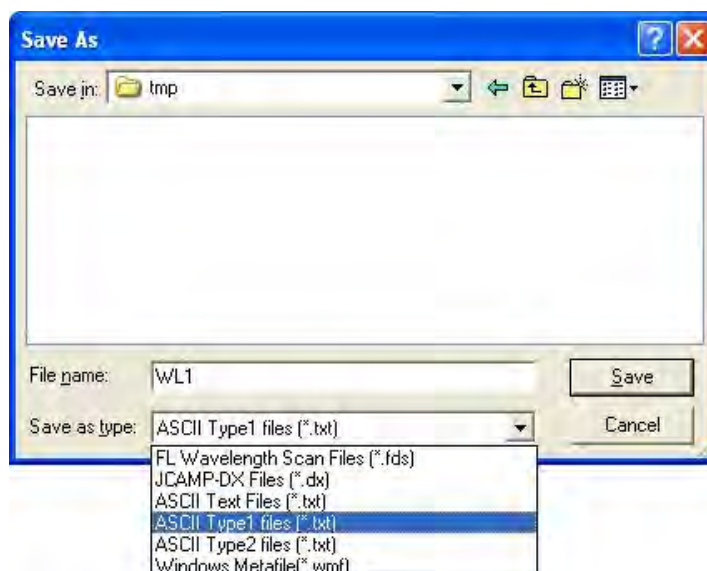

Fig. 7-47
- (1) Load a data file for text conversion and open the data processing window. (Refer to 7.1.)
- (2) Click the [Save As command] in the File menu.
- (3) A window as in Fig. 7-47 will open.